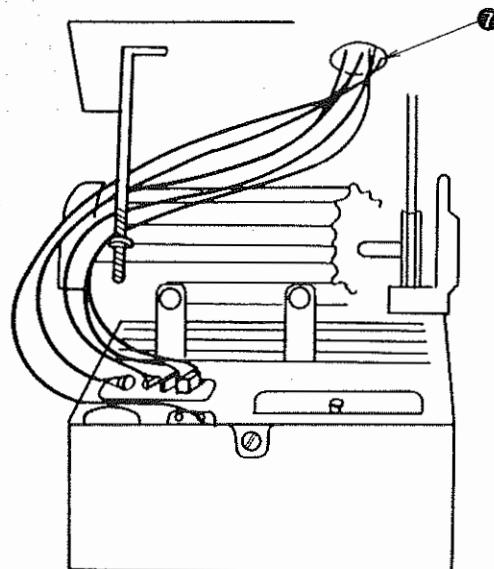

Fig. 4-23
- ③ As shown in Fig. 4-23, remove the cord from hole ⑦ in the table along the wiring route, then remove the control box.
- (2) Bring the cord to the PSC box position along the wiring route in Fig. 4-23.
- (3) Open the PSC box front cover. Connect the type of connector specified for the type of box being mounted (SC-20, J67 2P, SC-120, SC-220, J60 16P, SC-320 J61 20P.)
- (4) Finally, connect the cord to the type of rubber bushing specified for the type of box being mounted. [so that the cord bundling band fits inside the rubber bushing (inside the box)], and close the front cover to complete the mounting.